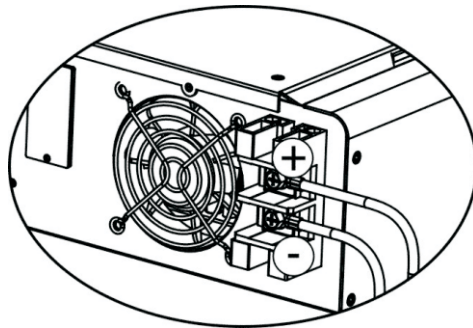

Figure 7.2
Step 3: Following battery polarity guide printed near the battery terminal! Place the external battery cable ring terminal over the battery terminal. Refer to Figure 7.2.